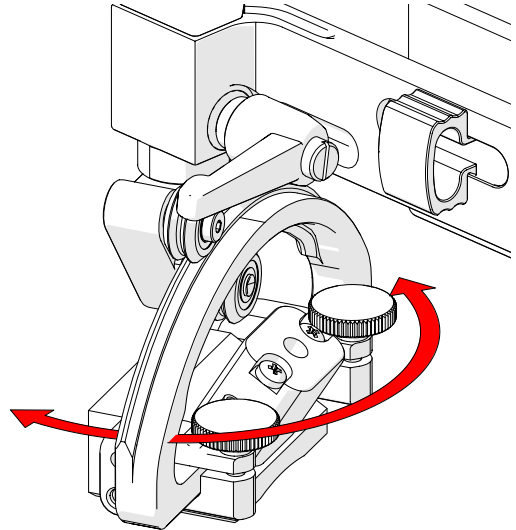

Fig. 217 - Adjust skew angle
2. Rotate the yoke (Up to 90° in either direction) to the angle required (Fig. 217).